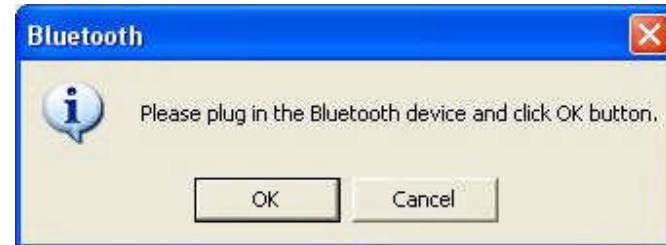

Figure 2.4: Plug in the Bluetooth device
- f. During installation, you should plug in the Parani-UD100 to USB port. After plugging in it, click the OK button. (Figure 2.4)